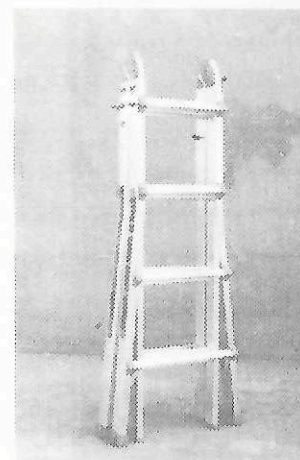

Figure A-2
1. Storage position (FIGURE A-2)